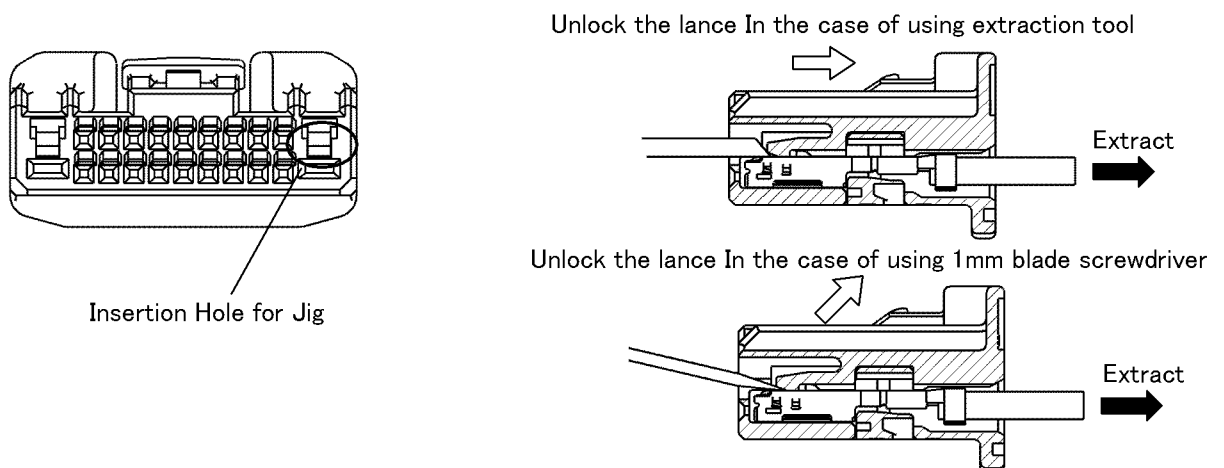

Fig.14
(3) In the case of 2.3 TW Contact
① Insert the extraction tool for 2.3TW Receptacle contact (P/N:1999077-1) into the proper hole . At this point, pull back the crimped wire lead and the contact can be removed. See Fig.14.
② In the case of using 1mm blade screwdriver, insert it into the proper hole and raise it gently just enough to unlock the lance. At this point, pull back the crimped wire lead and the contact can be removed. See Fig.14.